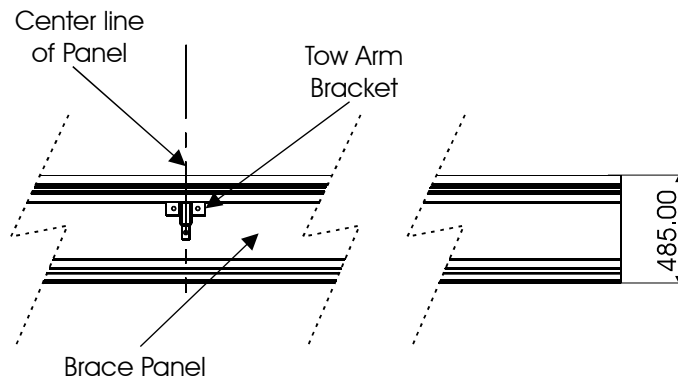

Fig. 5
- 1 Place the door tow arm bracket in place on one of the 4 brace panels on the center line of the panel, as shown in fig. 5. This panel will be installed second from the top.